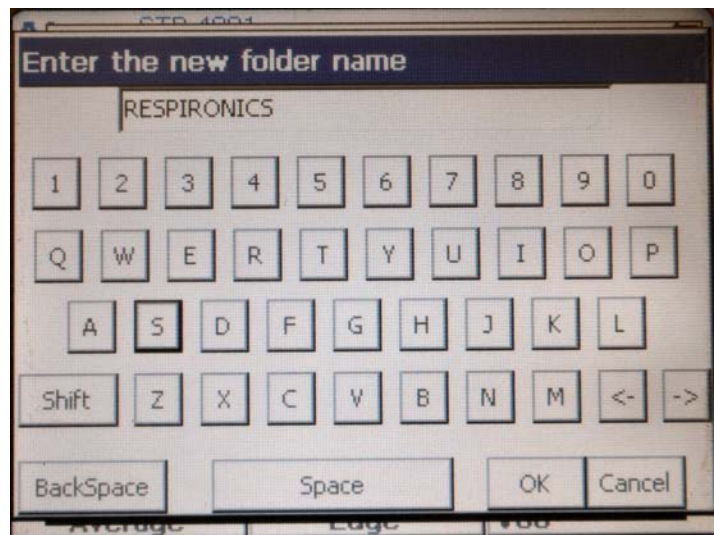

Figure 8-7: Entering a New Folder Name (Certifier FA Plus)
3. Use the touch screen keyboard to enter **RESPIRONICS**, then touch **OK** (Figure 8-7).